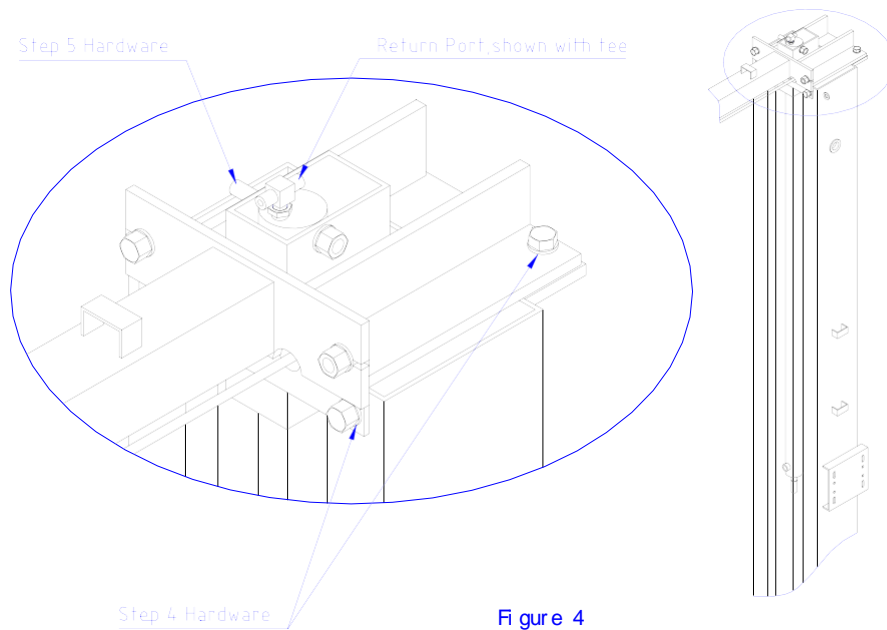

Figure 4
4. **Attach the cylinder mount or uprights. Attach the cylinder mounts or uprights to the legs using four 1/2" X 1-3/4" bolts, washers and nuts as shown in figure 4.**
- D. Install the cylinders to the uprights or cylinder mounts with **9/16" x 4-1/2" pins, cylinder bushings (spacers), and snap rings, figure 4**. The port near the rod end of the cylinders should be positioned pointing to the leg's open side. High Rise cylinders must be attached to the alternate hole near the top of the upright.